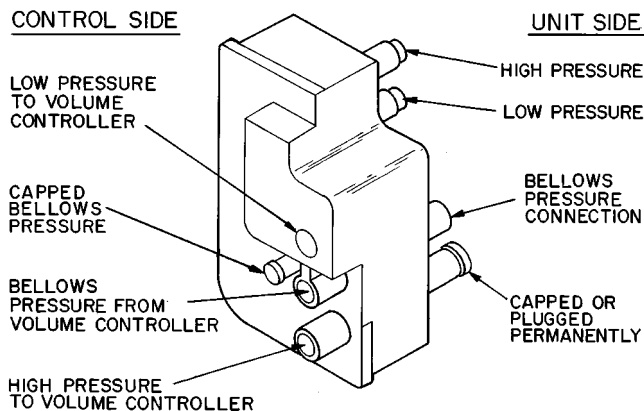

Fig. 15 — Filter/Manifold Connections
4. To prepare the control filter for installation, be sure that the bellows chamber filter plug is pushed tightly into the correct connection. Figure 15 shows the connection ports on both sides of the filter. The lower bellows port on the unit side and the small bellows pressure connection on the control side should be capped or plugged before installation.